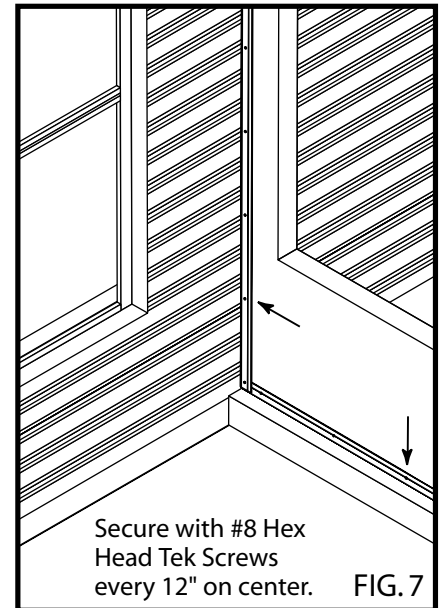

FIG. 7
- [7]** Secure into place with #8 hex head tek screws every 12" on center. **[FIG 7]**